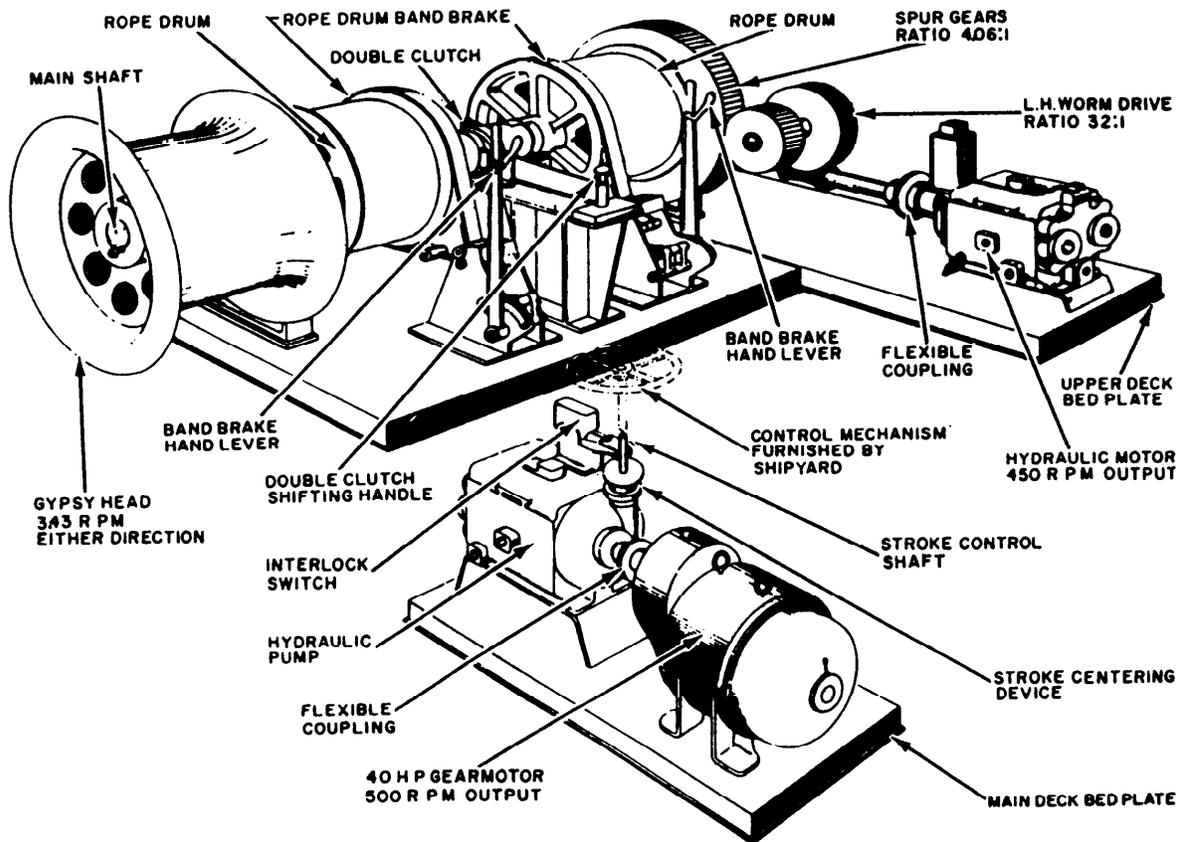

Figure 14-3.—Electrohydraulic winch unit.
**ELECTROHYDRAULIC WINCHES.**—Electrohydraulic winches (fig. 14-3) are always the drum type. The drive equipment is like most hydraulic systems. A constant-speed electric motor drives the A-end (variable-speed hydraulic pump), which is connected to the B-end (hydraulic motor) by suitable piping. The drum shaft is driven by the hydraulic motor through reduction gearing.